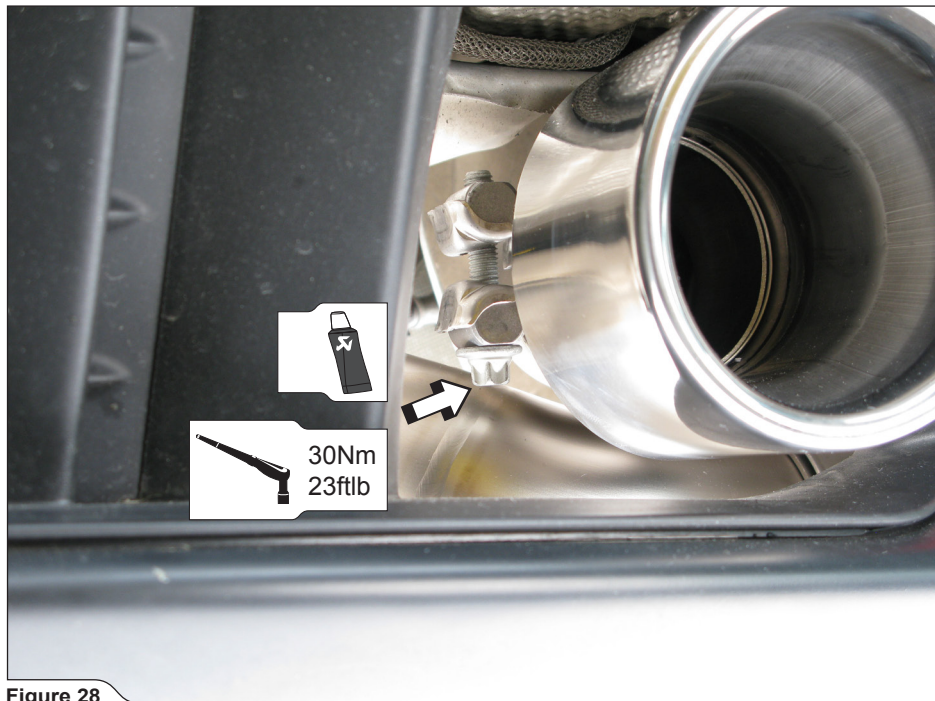

Figure 28
11. For Slip-On Race and Evolution Race: tighten the Tail Pipe clamps to a specified torque (**Figure 28**).